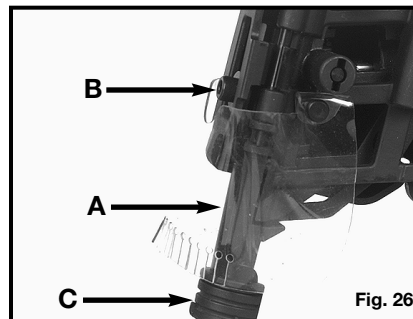

Fig. 26
The depth to which a fastener is driven is controlled by the depth adjustment (A) Fig. 26. The depth of drive is factory adjusted to a maximum setting. Test fire a fastener and check depth. If a change is desired: loosen locking screw (B) Fig. 26, with hex wrench (D) Fig. 27 provided, slide adjustment to desired position and retighten locking screw (sliding the two members closer together increases the depth of drive, sliding the two members farther apart decreases the depth of drive). Test fire another fastener and check depth. Repeat as necessary to achieve desired results. The amount of air pressure required will vary depending on the size of the fastener and the material being fastened. Experiment with the air pressure setting to determine the lowest setting that will consistently perform the job at hand. Air pressure in excess of that required can cause premature wear and/or damage to the tool.
A rubber nose cushion (C) Fig. 26, is provided to reduce marring of the work surface. The rubber cushion can be pulled off to provide increased depth-of-drive for toe-nailing applications. The nose cushion can be stored on the nail magazine (A) Fig. 27, when not in use.